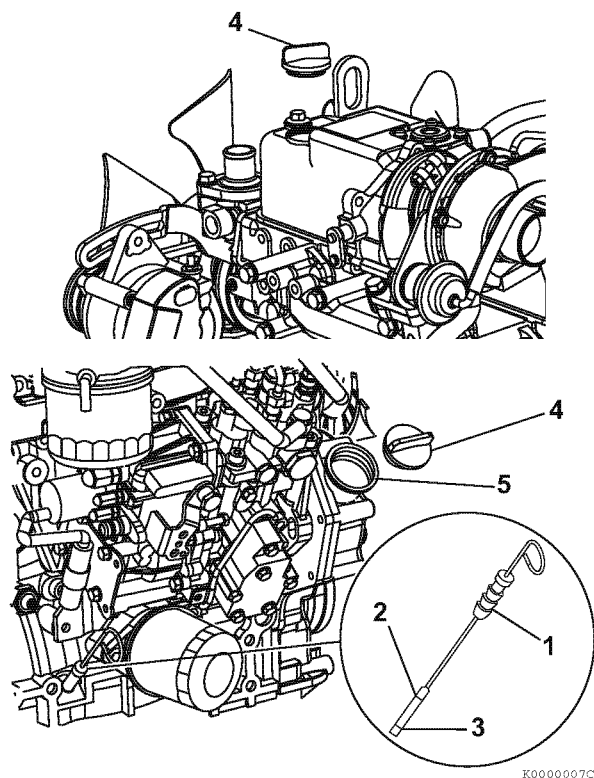

Figure 4-6
2. Remove the dipstick (1, **Figure 4-6**) and wipe it with clean cloth.
4. Remove the dipstick. The oil level should be between the upper (2, **Figure 4-6**) and lower (3, **Figure 4-6**) lines on the dipstick.
2. Remove the oil cap (4, **Figure 4-6**).
3. Add the indicated amount of engine oil at the top or the side engine oil filler port (5, **Figure 4-6**).
6. Reinstall the oil cap (4, **Figure 4-6**) and hand-tighten. Over-tightening may damage the cap.